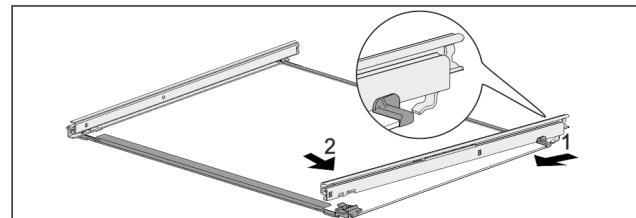

Fig. 123 Glass shelf with rails
- ▶ Hook in rail at the back. Fig. 123 (1)
- ▶ Hook in rail at the front. Fig. 123 (2)